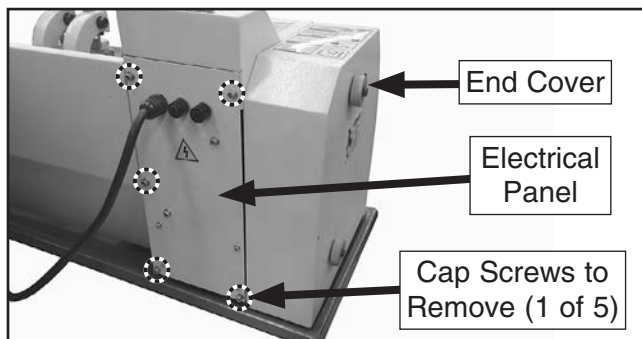

Figure 139. Location of parts for removing panel.
2. Remove end cover and electrical panel (see **Figure 139**).